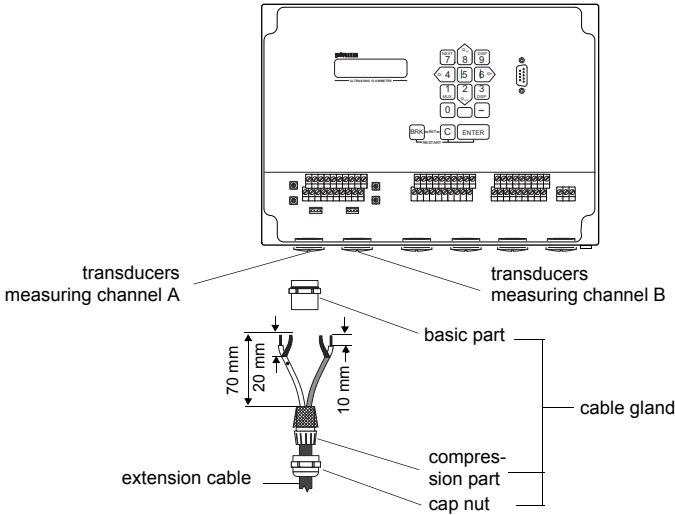

Fig. 5.10: Transducers (ATEX zone 1) - connection via junction box, connection of the extension cable to the transmitter
- Remove the left blind plug for the connection of the transducers (see Fig. 5.10).
- Connect the leads to the terminals of the transmitter (see Fig. 5.10 and Table 5.7).